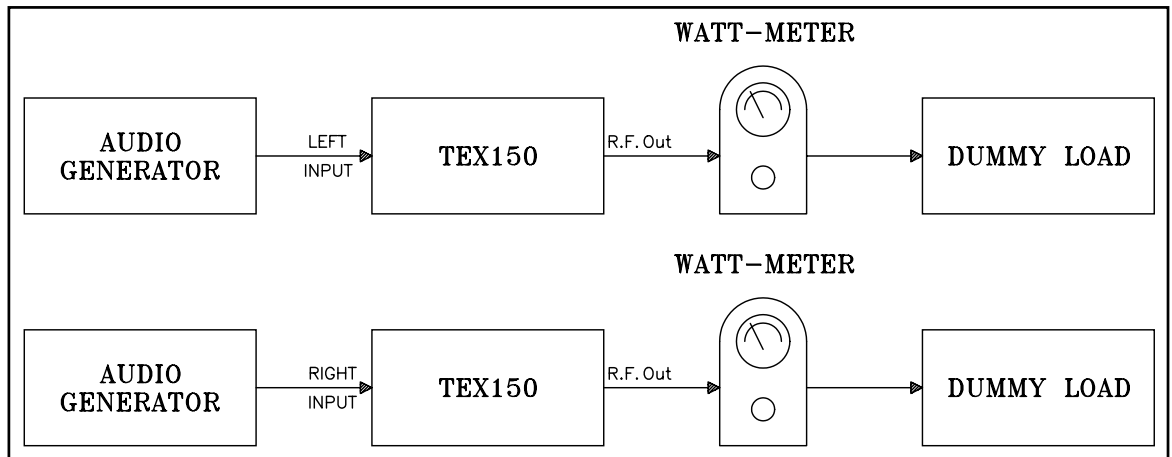

figure 10.3
- Inject a 400 Hz, 0dBm pilot tone into the Left (or Right) input. (see fig. 10.3 for Stereo Version, or see fig. 10.2 for Mono Version).